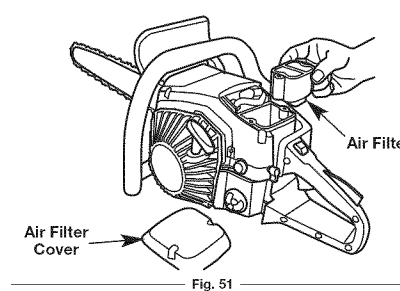

Fig. 51
1. Remove the air filter cover by loosening the cover-retaining screws (Fig. 51). The cover will lift off.